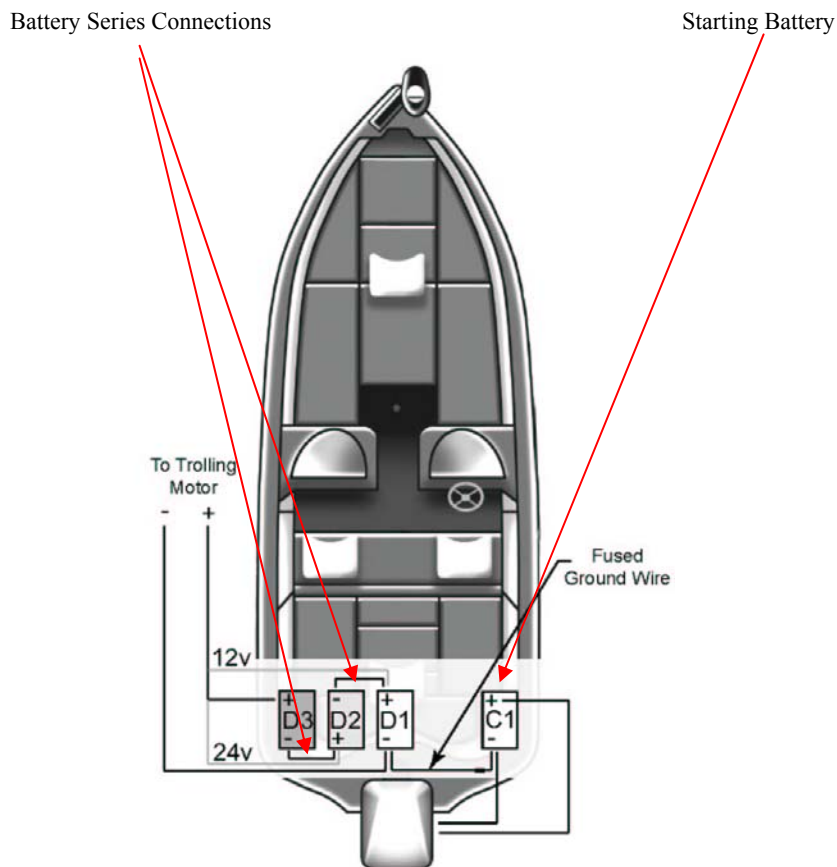

Figure 1
**Step 2.** After verifying that the starting battery is being used to power the depth finder, connect one end of the fused ground wire to the starting battery negative post. Connect the other end of the fused ground wire to the battery post that the trolling motor's negative (-) battery lead is connected to. (see Figure 1)